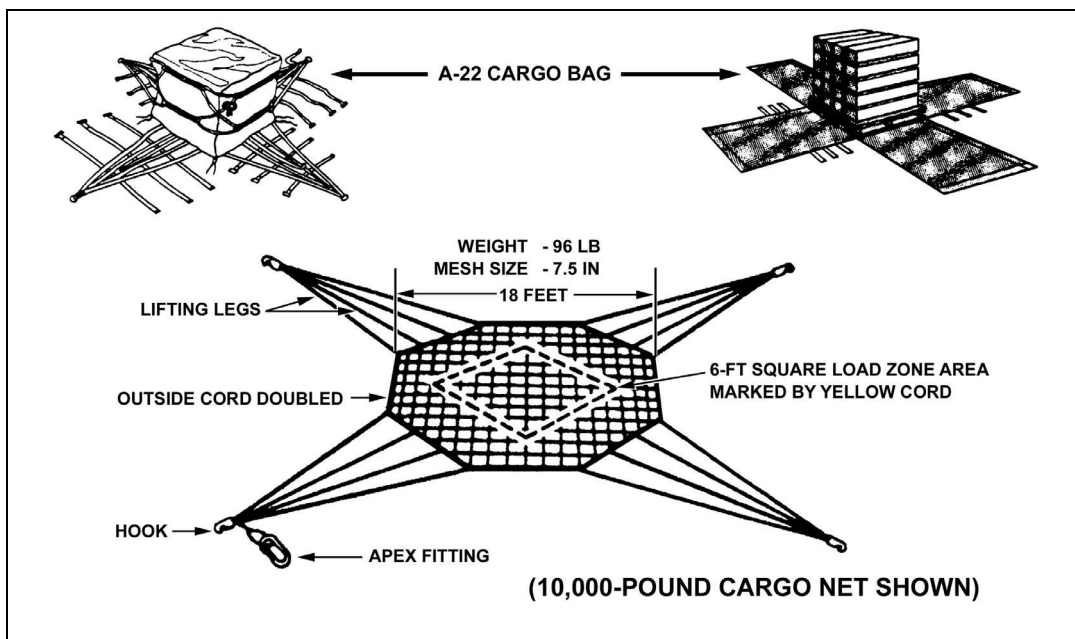

Figure 5-2. Cargo nets and bag.
c. **Nets and Containers.** The Army has many types of cargo containers. However, the 5,000- and 10,000-pound cargo nets and the A-22 cargo bag are the ones most often used to transport cargo externally. Chapter 7, FM 10-450-3 describes how to inspect both the large cargo net and the A-22 cargo bag (Figure 5-2). It also provides rigging instructions. Avoid overloading the nets; use them with loads that fall within the aviation unit's prescribed limits. Pick up the nets rather than dragging them across the ground, since dragging them can cause them to snag on something and damage the net or the thing it snags. Use a canvas insert when carrying items small enough to slip through the netting: